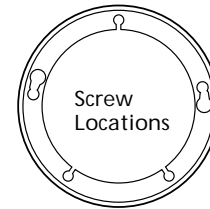

Figure 6d - Turning Motor Counterclockwise
combinations from the motor. Turn the motor counterclockwise using the two grommet-and-screw combinations while holding the Speed Ring™ in place as shown in Figure 6d.
4. Insert and tighten three tapered head screws as shown in Figure 6d.